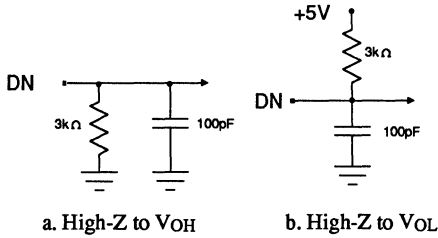

Figure 1. Load Circuits for Data Access Time Test
4. Measured with the load shown in Fig. 1, and defined as the time for an output to cross 0.8V or 2.4V.